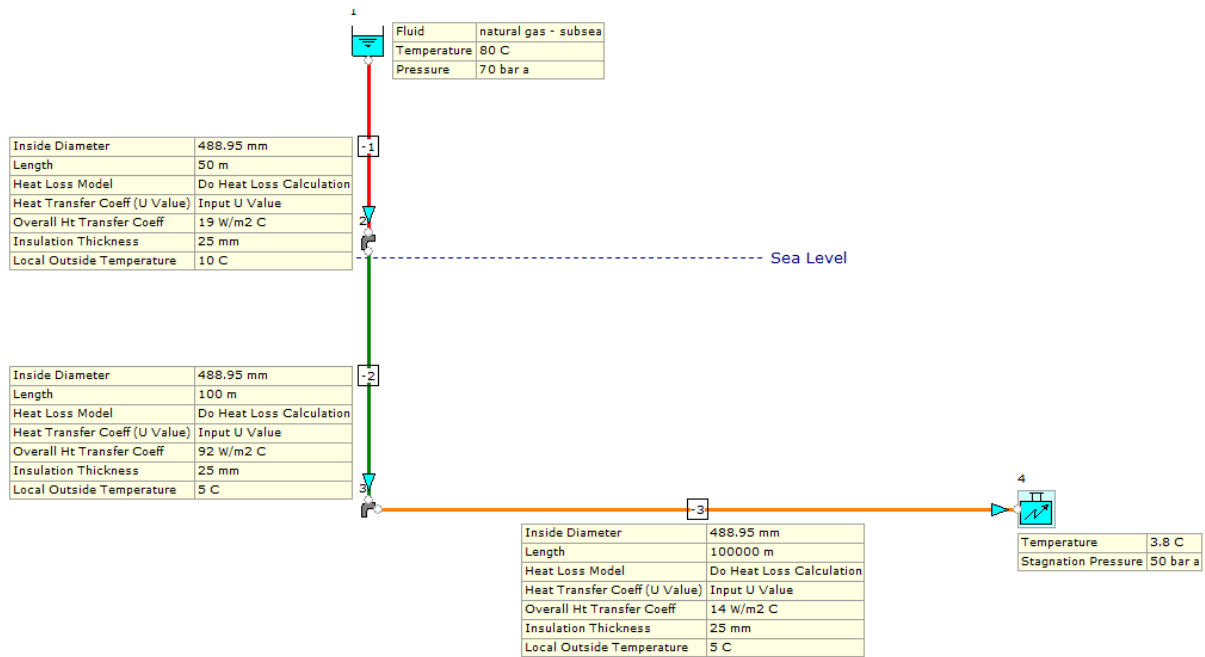

Figure 4.2.4: Buried Seabed Natural Gas System.
Step 3: The next step is to lay out the model as per Figure 4.2.4.
Select *Steel Pipe or Duct* from the *Pipes* tab on the *Component Palette* and place the mouse selector directly over the *Known or Assigned Pressure* node. Left mouse-click on this inlet boundary to connect the pipe. Then, left mouse-click in the position of the first bend (sea level) in Figure 4.2.4. The pipe will have terminated with an *Open Pipe* node. Continue developing the model connectivity by left mouse-clicking on the *Open Pipe* node and terminate this second pipe in the position of the second bend. This pipe will also have terminated with an *Open Pipe* node but you should see the first *Open Pipe* node has now changed to a bend automatically.
Now we can consider the pipes. We need to define the lengths as shown in Figure 4.2.4 and described in Table 4.2.1 using the *Input Inspector*.